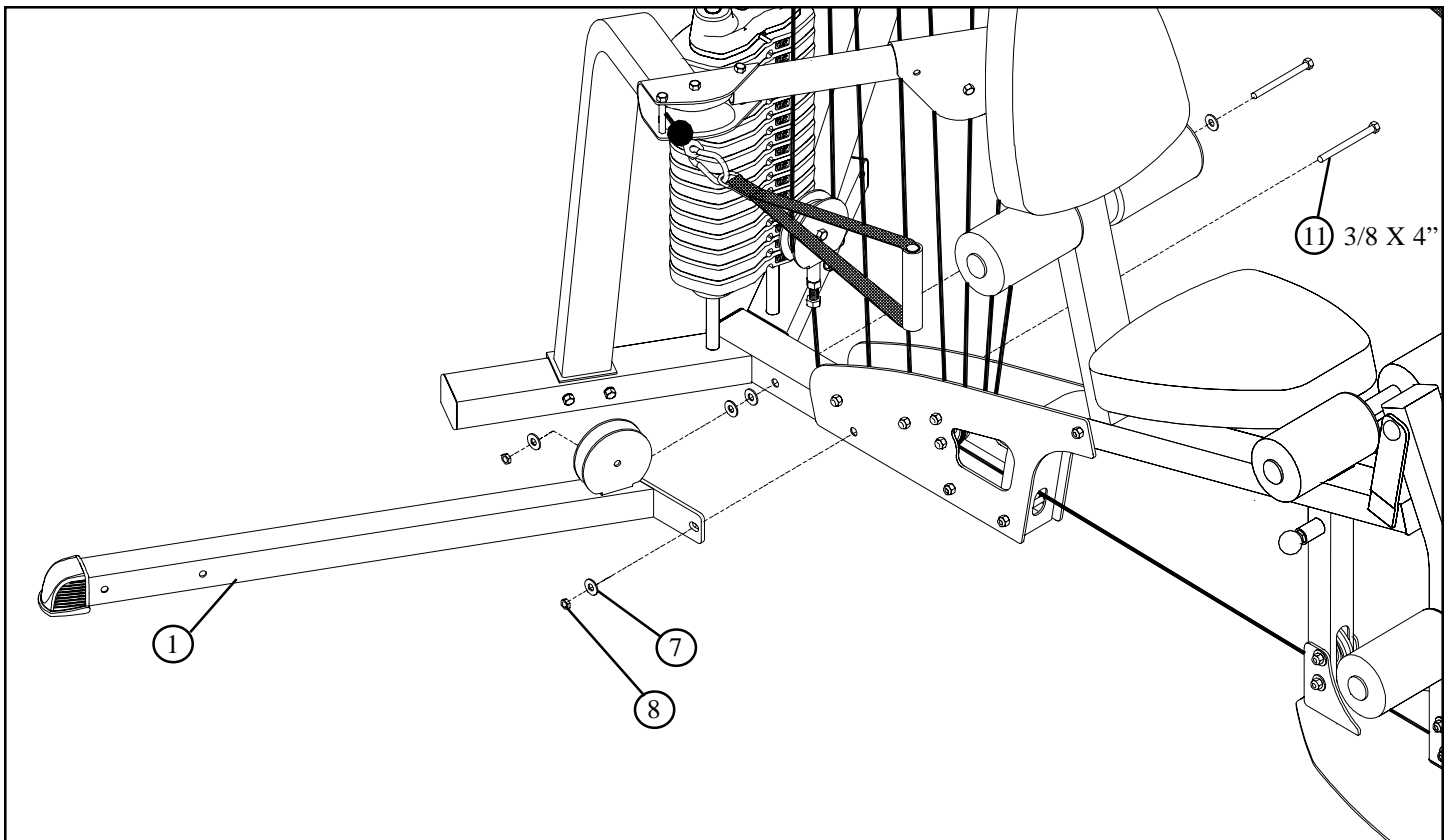

FIGURE 6
- **SECURELY** assemble the LEG PRESS ADAPTOR (1) to the CM3 Gym System using two 3/8 X 4" BOLTS (11), five 3/8" WASHERS (7), one previously removed 3/8" LOCK NUT and one 3/8" LOCK NUT (8) as shown in FIGURE 6.